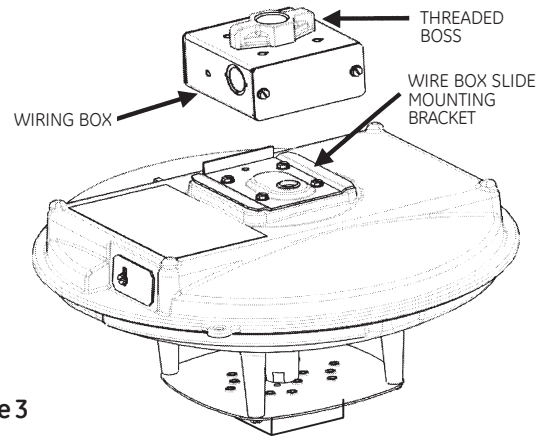

Figure 3
3. Slide the Wiring Box onto the Mounting Bracket, which is preassembled on to the Upper Housing as shown in Figure 3.